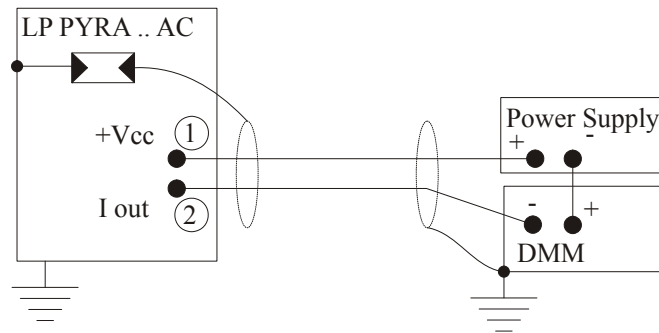

Fig. 8
- LP PHOT 02 AC is to be connected to a DMM and a power supply as show below (Figure 8). To read the signal, the load resistance must be $\leq 500\Omega$